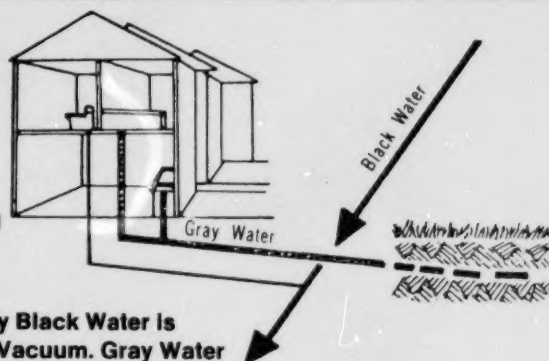

Figure 37-27. Option A — Only Black Water is Transported by Vacuum. Gray Water is Infiltrated Into a Tile Field
87. This option offers the most economical vacuum system (Figure 37-27). The separated gray water is relatively harmless, containing most phosphates and only 10 per cent of the total nitrogen but practically none of the pathogenic bacteria and viruses found in normal sewage. It can be readily and inexpensively infiltrated into a simple tile bed at each house location. With the gray water being reduced in volume by 50 per cent (and without the black-water contamination), it is easily regenerated through the solid.